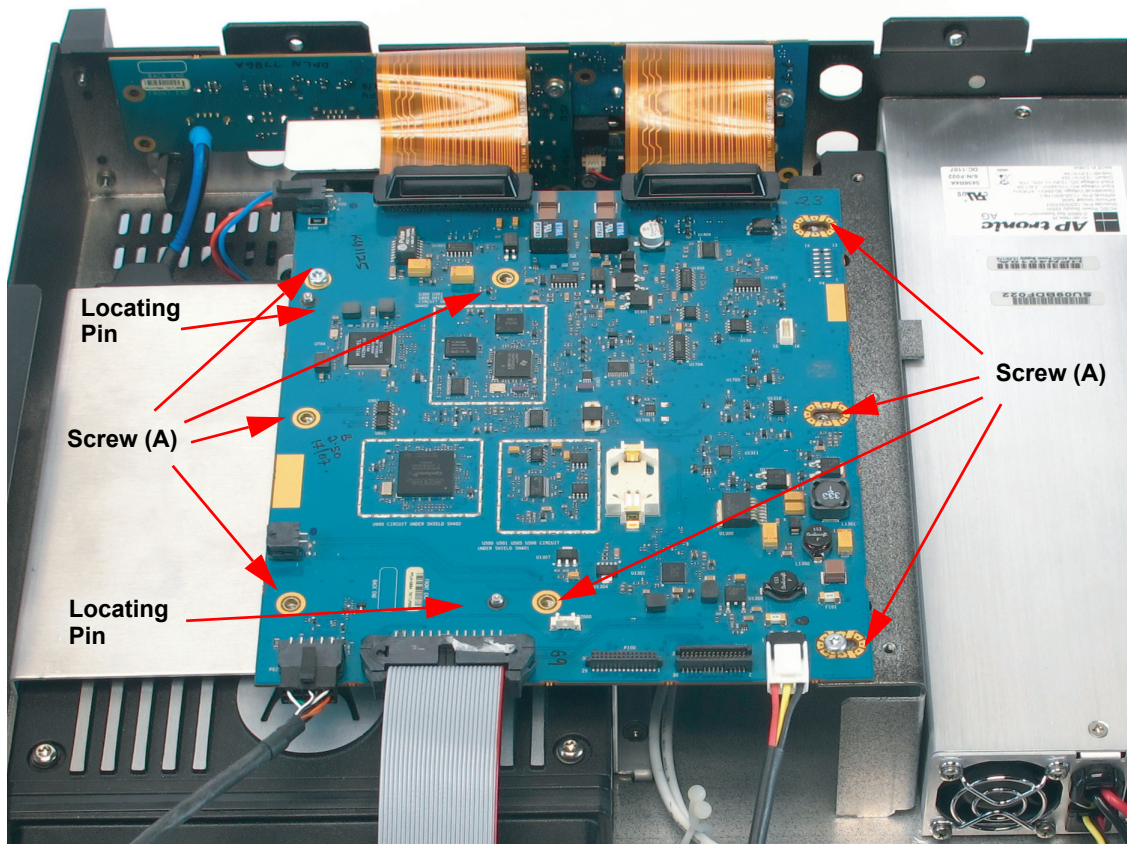

Figure 5-3. Removing and Replacing Main Board
2. Remove the eight screws (A) on the main board assembly as shown in Figure 5-3 using a T15 TORX™ driver.
2. Install the eight screws (A) on the main board assembly as shown in Figure 5-3 using a T15 TORX™ driver.